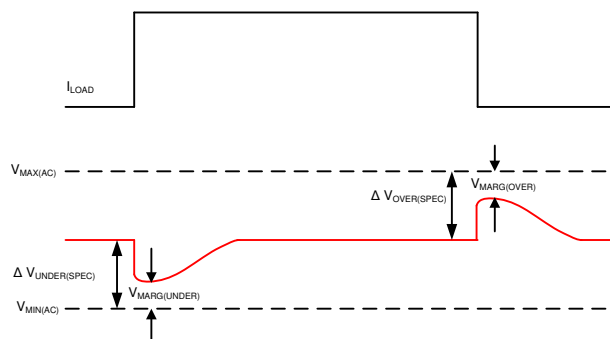
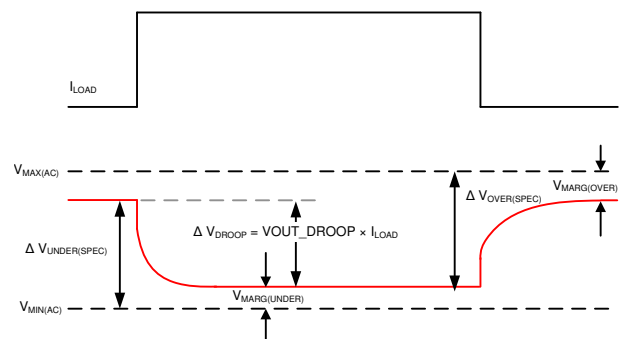

Figure 7-18. Load transient specification (zero load line)
Figure 7-19. Load transient specification (non-zero load line)
- Adaptive voltage positioning increases the allowable undershoot and overshoot during load transient events. Figure 7-18 and Figure 7-19 compare example output voltage specifications for systems with zero load line and non-zero load line. The nominal setting for the output voltage is chosen to be higher, to allow the entire transient window as margin for transient overshoot and undershoot.